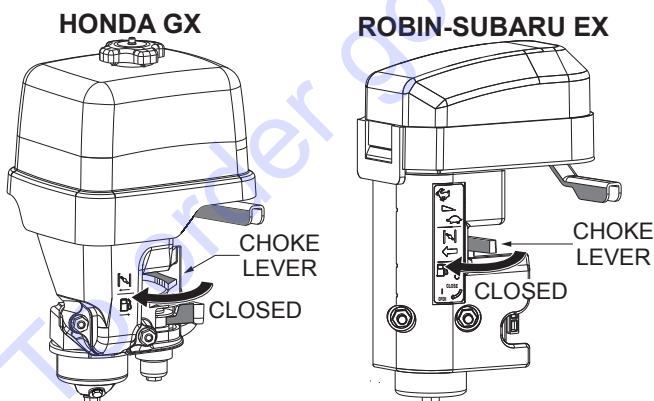

Figure 35. Choke Lever (Closed)
- If starting a cold engine, place the choke lever in the **CLOSED** position (Figure 35).
- If the engine has started, slowly return the choke lever to the **CLOSED** position (Figure 35). If the engine has not started, repeat steps 1 through 6.